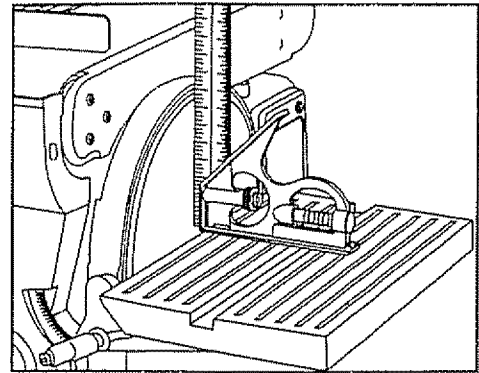

Fig. 17
■ Squaring the tables (see figure 17)